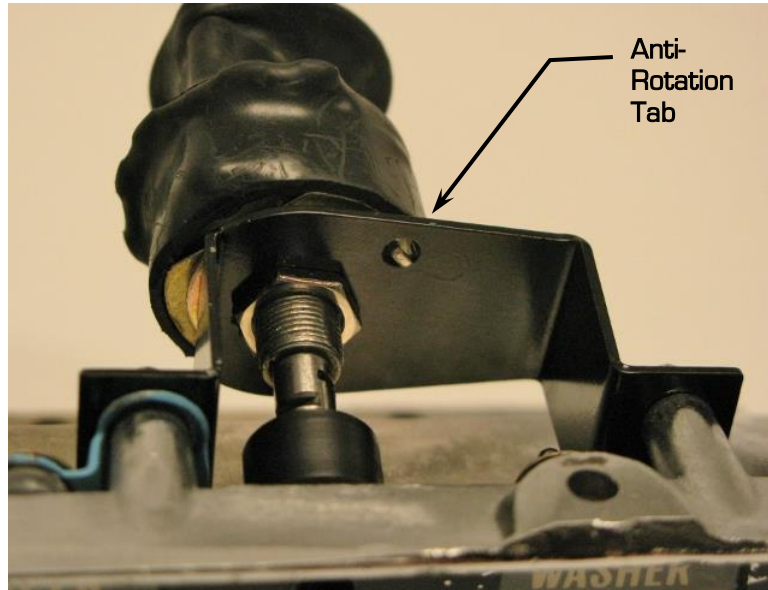

Figure 8 - Tighten Switch Nut
15. With the anti-rotation tab of the switch locked in place on the switch adapter, tighten the hex nut onto the wiper switch (Figure 8).